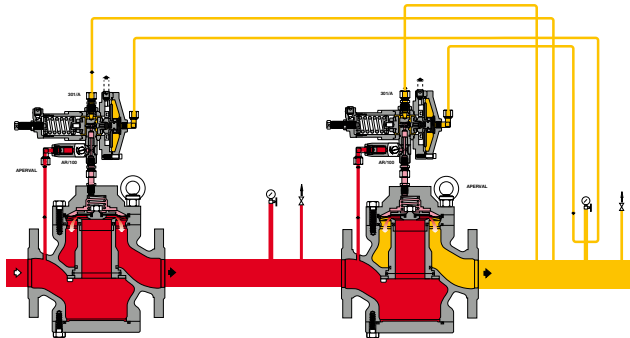

Fig. 5
- > Aperval pressure regulator, identical to the main regulator (fig.5), the only difference is that monitor is set at a higher pressure than the main regulator.